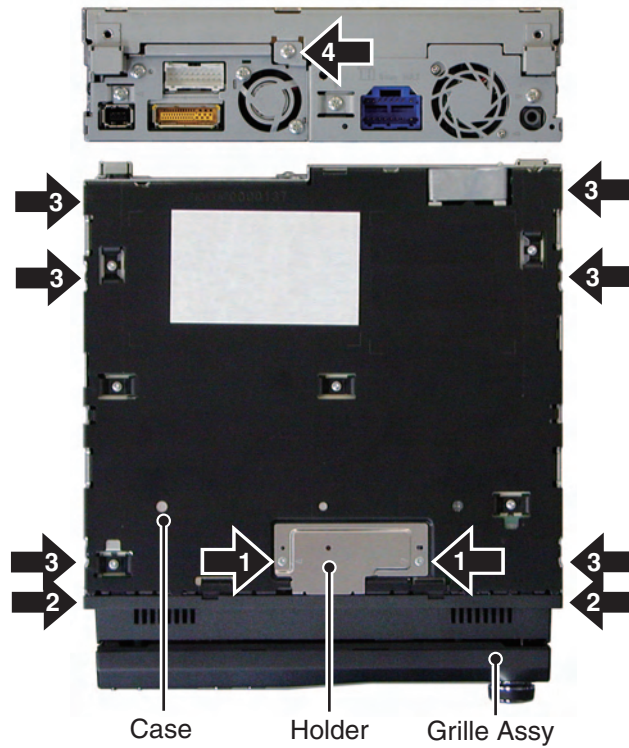

Fig.1
● Removing the Grille Assy (Fig.1)
- ➡ **3** Remove the six screws.(Fig.1)
- ➡ **4** Remove the screw and then remove the Case.(Fig.1)
Remove the Case.(Fig.1)